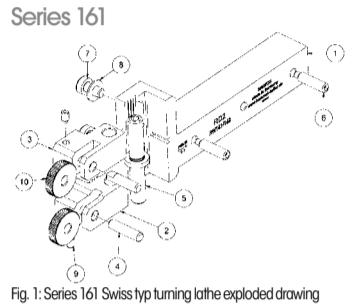
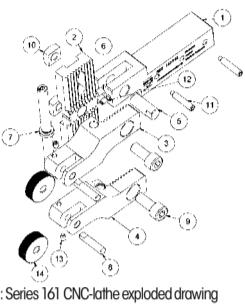
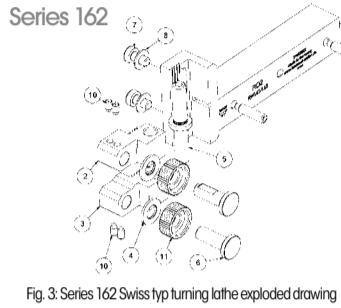
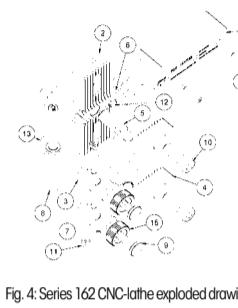

Fig. 1: Series 161 Swiss typ turning lathe exploded drawing
Fig. 2: Series 161 CNC-lathe exploded drawing
Fig. 3: Series 162 Swiss typ turning lathe exploded drawing
Fig. 4: Series 162 CNC-lathe exploded drawing
Please specify the tool number and the corresponding position number (see Fig. 1–4).
The centre height is integrated in tool mount and corresponds to the upper shaft edge (Fig. 1–4, pos. 1).
For installation or replacement of knurling wheels, unscrew both threaded pins (Fig. 1, pos. 9; Fig. 2, pos. 13; Fig. 3, pos. 10; Fig. 4, pos. 11) and remove the axle pins (Fig. 1, pos. 4; Fig. 2, pos. 8) or collar studs (Fig. 3, pos. 6; Fig. 4, pos. 9). Then mount the new knurling wheel with the axle pins and/or collar studs and clamp with the threaded pin. Ensure that the axle pin is clamped on the planar surface.
Unscrew both Allen screws (Fig. 1, pos. 7; Fig. 2, pos. 9; Fig. 3, pos. 7; Fig. 4, pos. 10) and adjust the jaws (Fig. 1, pos. 2 + 3; Fig. 2, pos. 3 + 4; Fig. 3, pos. 2 + 3; Fig. 4, pos. 3 + 4) with the adjustment spindle (Fig. 1, pos. 5; Fig. 2, pos. 7; Fig. 3, pos. 5; Fig. 4, pos. 8). A calliper gauge is useful for measuring the distance. After adjustment of the working range, re-tighten the Allen screws.
Axle pins (Fig. 1, pos. 4; Fig. 2, pos. 8) and hinge pins (Fig. 3, pos. 6; Fig. 4, pos. 9), collar studs (Fig. 2+4, pos. 5) and races (Fig. 3, pos. 4; Fig. 4, pos. 7) should be replaced after a reasonable number of cycles, no later than upon appearance of significant wear or deviating process parameters. The slot of the jaws must also be inspected for wear or widening. An adequate flow of coolant or cutting oil is recommended!